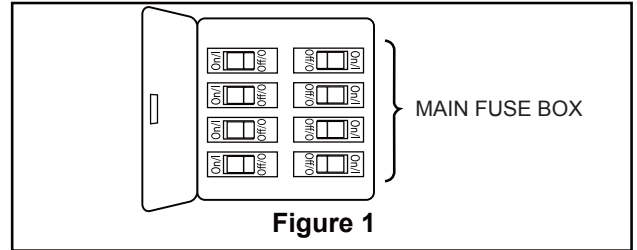

Figure 1
Low-profile use (Figure 1)
1. Remove the two screws and ceiling canopy in the hanger bracket and retain the screw for subsequent installation. (Figure 1)
To avoid possible fire or shock, be sure electricity is turned off at the main fuse box before hanging. (Figure 1)
To avoid possible electrical shock, be sure electricity is turned off at the main fuse box before wiring. (Figure 1)